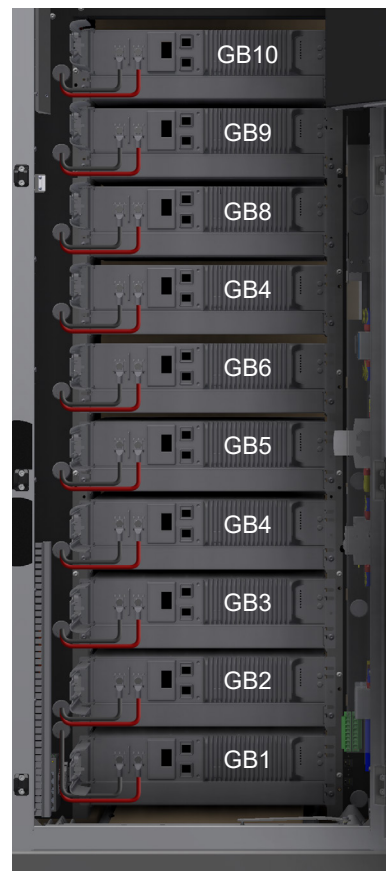

Figure 4.37 Battery cables
6. Repeat step 4 and 5 to connect all other batteries installed in the system (see *Figure 4.37*).